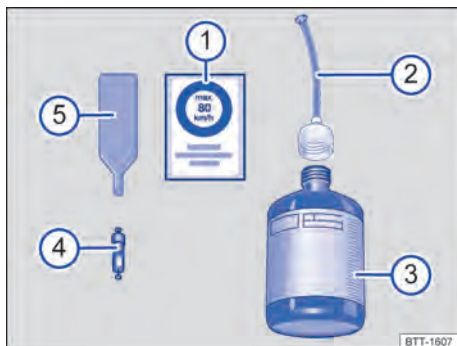

Fig. 220 Contents of the breakdown set (illustration).
- ① Sticker with the maximum permitted speed "max. 80 km/h" or "max. 50 mph".
- ② Filler hose with plug.
- ③ Tyre filler bottle.
- ④ Spare valve core.
- ⑤ Valve core extractor.
i There is a slot for the valve core on the lower end of the valve core extractor → Fig. 220 ⑤. This is required for extracting and fitting the tyre valve core. This also applies to the spare valve core ④.
1. Take the sticker from the breakdown set → Fig. 220 ① and stick it on the dash panel within the driver's field of vision.
3. Use the valve core extractor → Fig. 220 ⑤ to unscrew the valve core from the tyre valve. Place the core on a clean surface.
4. Shake the tyre filler bottle → Fig. 220 ③ vigorously to and fro several times.
5. Screw the tyre sealant tube → Fig. 220 ② tightly onto the tyre filler bottle in a clockwise direction. The plastic foil on the plug is pierced automatically.
6. Remove the plug from the filler hose → Fig. 220 ② and place the open end fully on the tyre valve.
9. Use the valve core extractor → Fig. 220 ⑤ to screw the valve core back into the tyre valve.